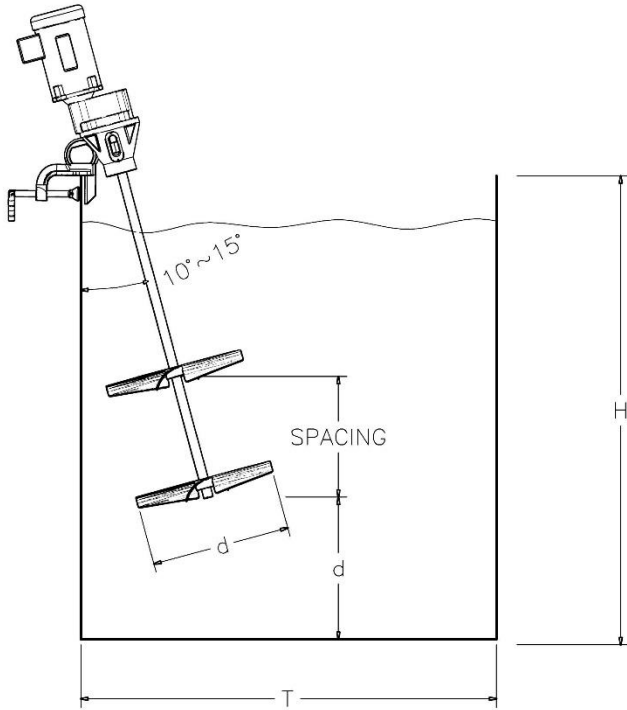
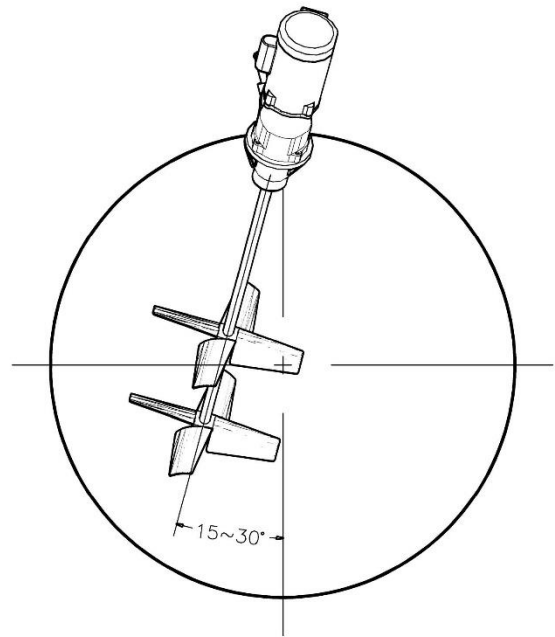

Figure 2
Figure 3
1. Dynamix “Clamp Mount“ mixers are designed to be angled @ 10 to 15 ° (Fig. 2) to the vertical wall and @ 15 to 30° (Fig 3) from the tank center, as shown. The following illustrations are for reference only. If there are any questions regarding the proper positioning of your mixer, please contact your Dynamix representative.